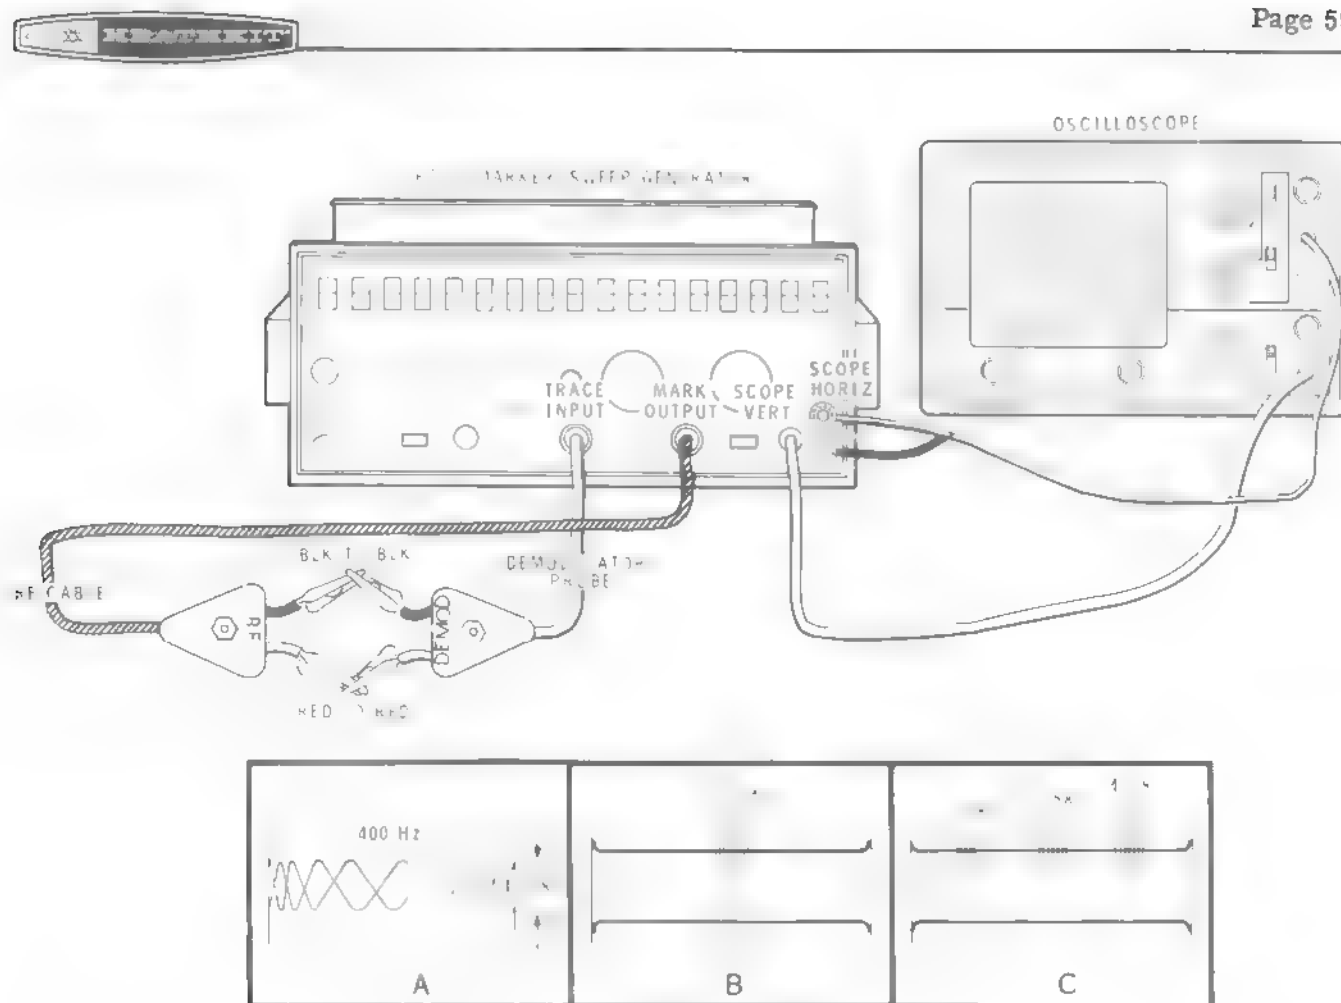

Figure 3 ADJUSTMENTS
- () Refer to Figure 3 and connect the Post-Marker/Sweep Generator and your oscilloscope as shown.